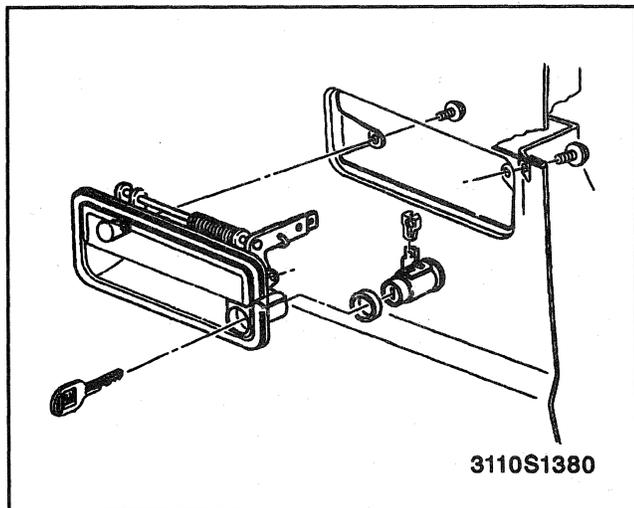

Figure 28—Outside Door Handle Assembly
6. Outside handle mounting screws (Figure 28).
7. Door lock cylinder from the outside handle housing (Figure 28).
8. Handle (Figure 28).
1. Handle to the vehicle (Figure 28).
2. Door lock cylinder to the outside handle housing (Figure 28).